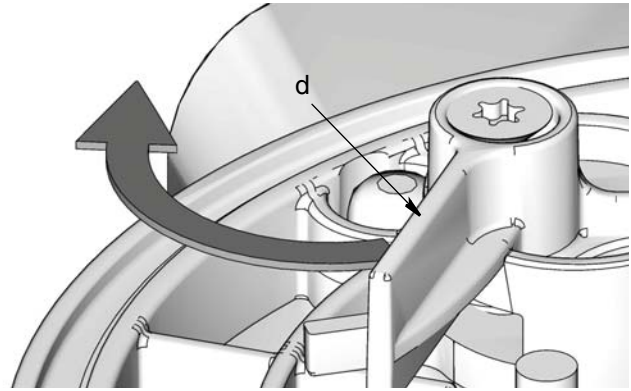

FIG. 9
NOTE: If a low level paddle (d) is installed, to prevent damage, hold low level paddle in its full out position while installing stirring paddle (FIG. 9).
1. Verify low level paddle (d) is in full out position as shown in FIG. 9.
2. Install follower plate (FP) on stirring paddle (c). Be sure the seal (FPS) is facing down (toward ricer